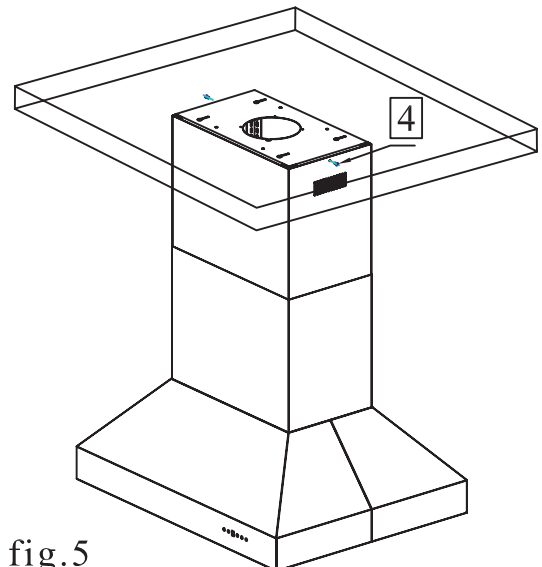

fig.5
**Step five:** Slide the inner chimney up over the top mounting plate securing with two screws provided. Pull the lower section down to rest on top of the main hood. fig 5.